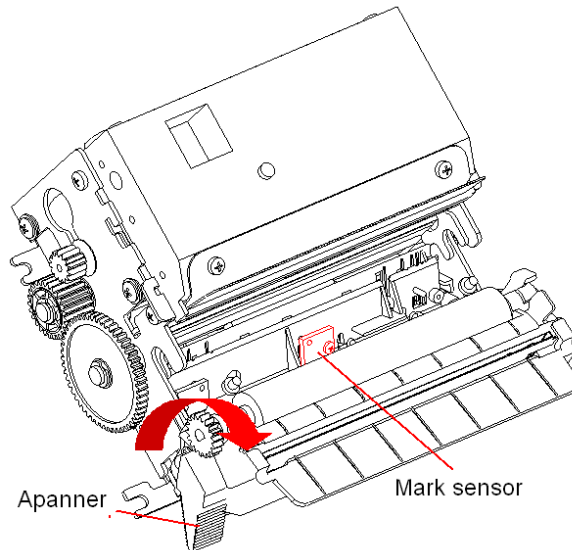

Fig. 5.2-6 Cleaning paper end sensor
7. When you turn the spanner according to the red arrow shown in Fig.5.2-6, the mark sensor could be viewed. Use a cross screw driver to screw down the M2 screw on the sensor so that you can take off the mark sensor;